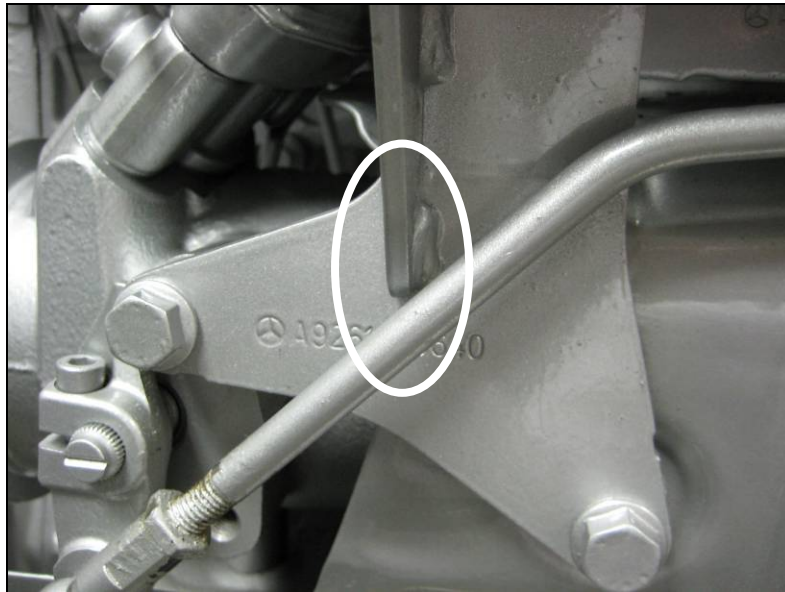

Figure 8 – Clearance Check Between Linkage Rod and Bracket
11. Check for adequate clearance between the linkage rod and the bracket. See Figure 8.